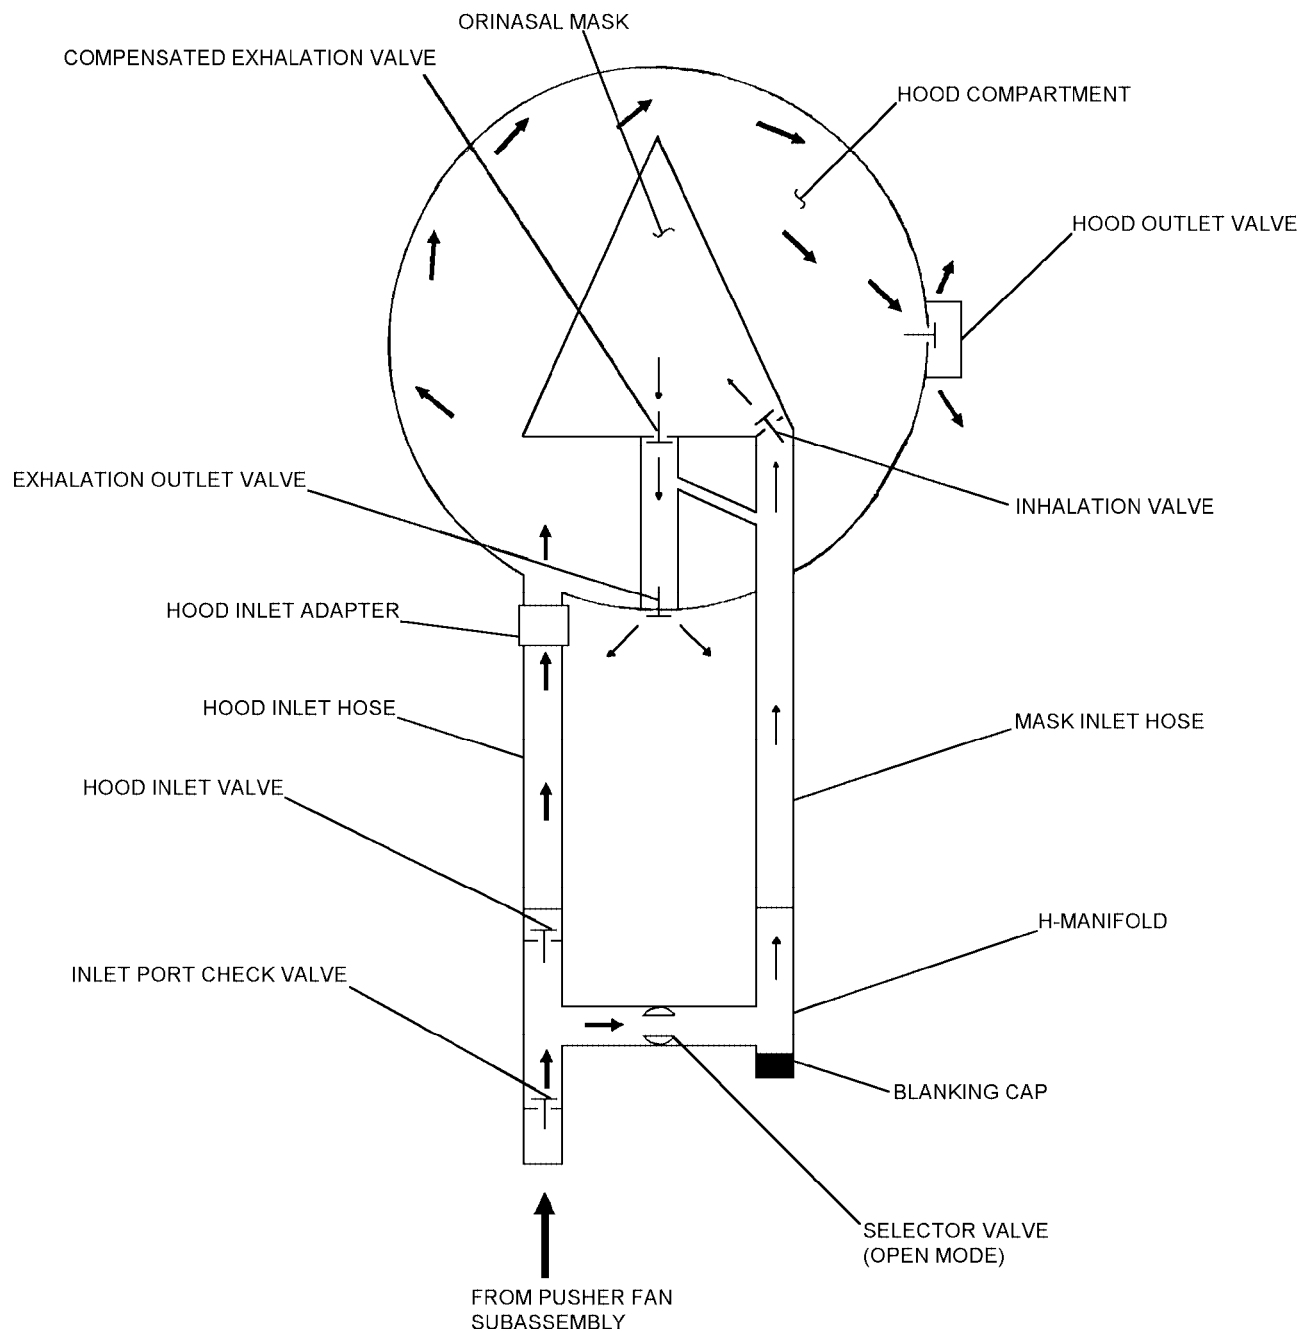
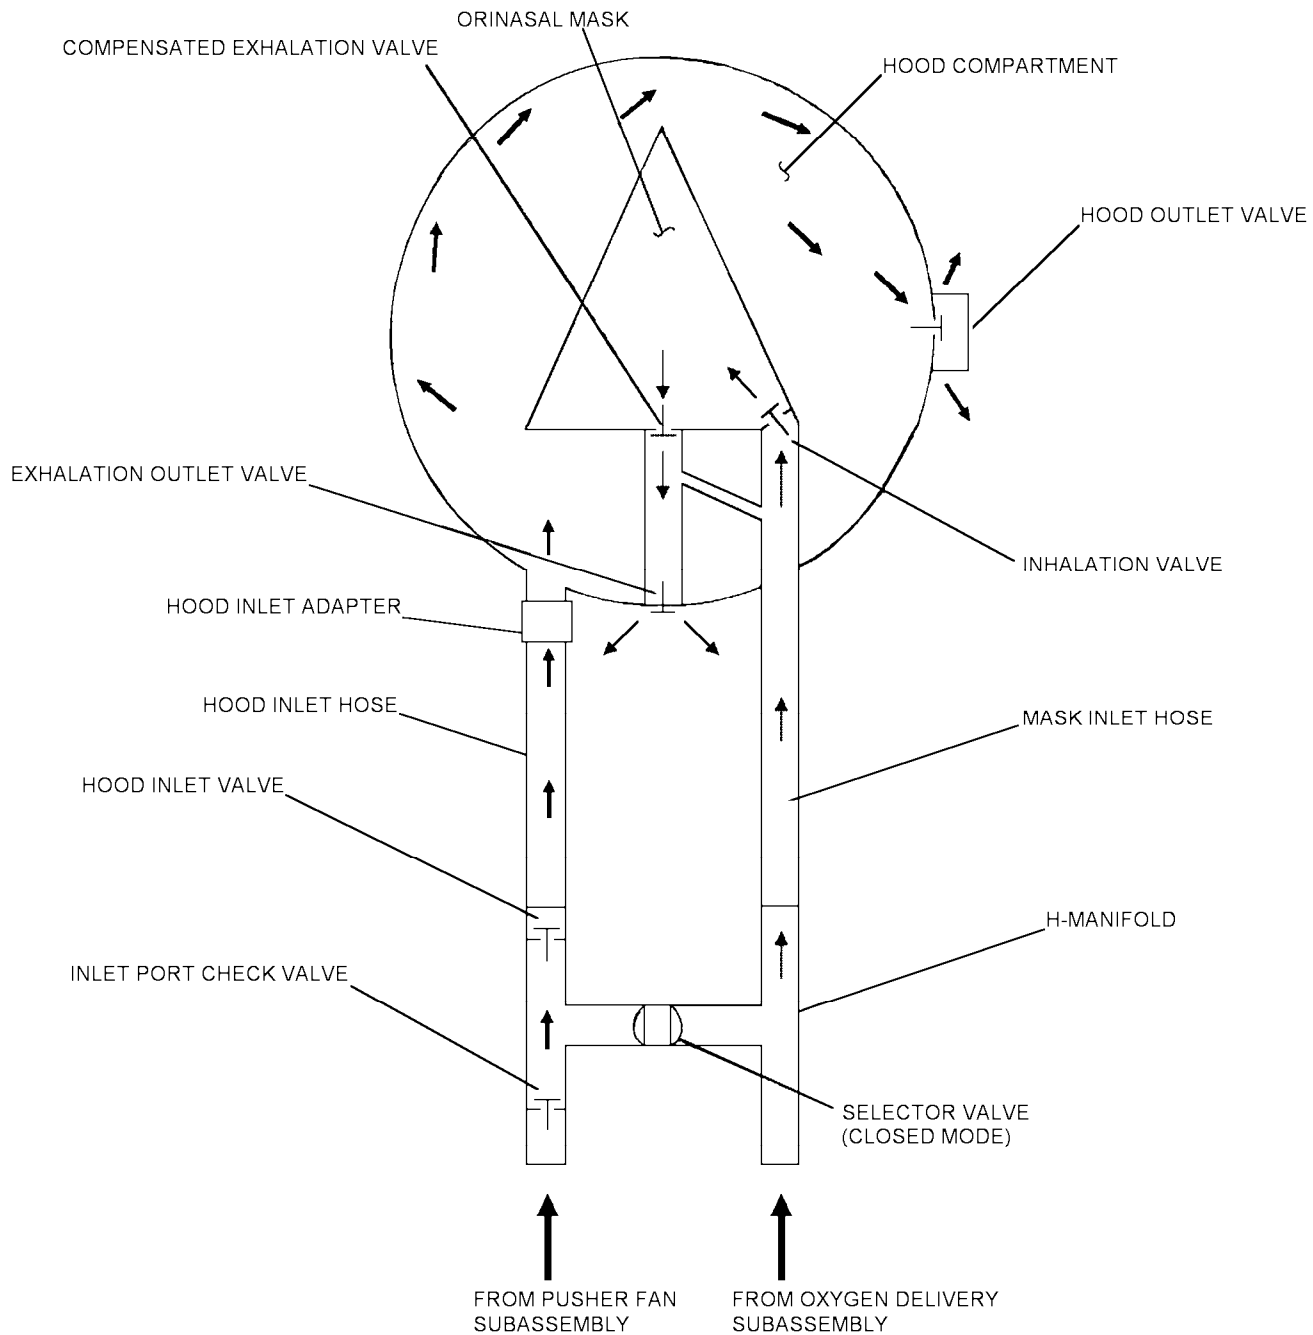

Figure 4-34. Filtered Air Flow to Orinasal Mask and Hood Compartment - (V)1 Only
Figure 4-35. Filtered Air Flow to Hood Compartment and Filtered Oxygen to Orinasal Mask - (V)2 thru (V)4 Only
4-63. Mask. The inside of the mask is divided into two compartments (figure 4-34 and figure 4-35). The mask compartment is made up of the orinatal area within the orinatal mask and the hood compartment comprises remaining area. This configuration provides for separate breathing and ventilation areas and allows pressurized oxygen supply ((V)2 through (V)4 only) to the orinatal mask reducing the breathing effort required. The air supply to the hood maintains a positive pressure which prevents contaminants from entering and reduces wearer heat stress even in hot and humid conditions, while providing faceplate defogging.
4-70. Lower Assembly. The (V)1 variant lower assembly provides the aircrewmember with filtered air for both the hood compartment and orinal mask (figure 4-34). The (V)2 through (V)4 variant lower assembly provides the aircrewmember with filtered air to the hood compartment and filtered, pressurized oxygen to the orinal mask (figure 4-35).